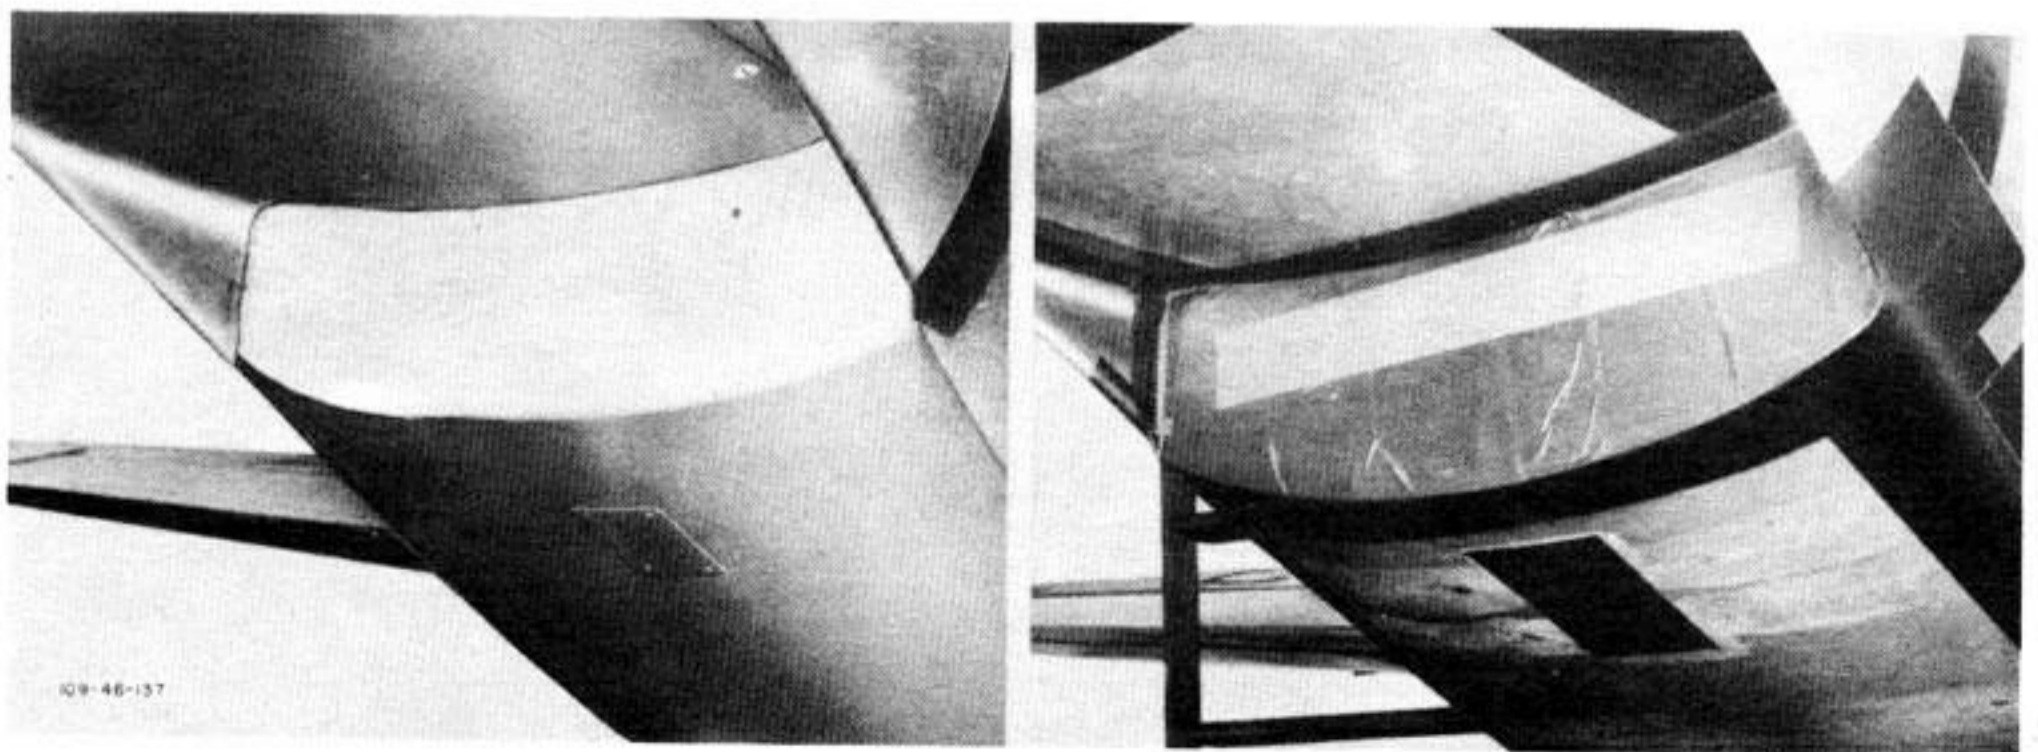

Figure 22—Coolant Radiator Air Outlet Flap Shield
a. Cut a piece of $\frac{1}{4}$ -inch plywood to cover coolant radiator air outlet flap. (See figure 22.)